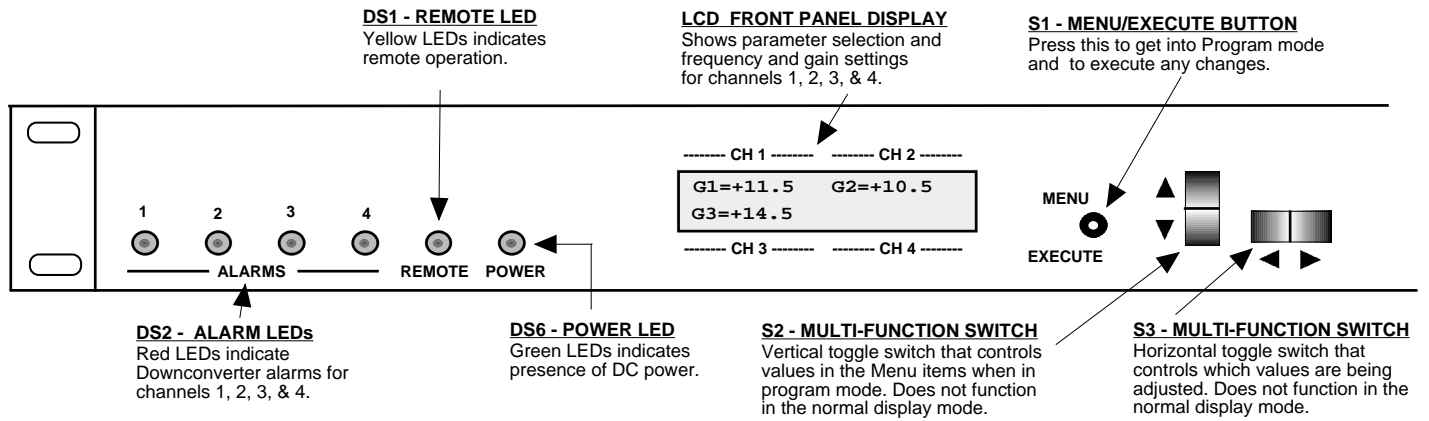

FIGURE 2.3 3115-33-95 Front Panel Controls and Indicators
6. Be sure DS6 (green, DC Power, PSA, PSB) is on and DS2 (red, Alarm) is off (Figure 2.3).
1. Menu/Execute - Any change to the programming of the unit must be initiated by pressing the Menu/Execute switch and completed by pressing the Menu/Execute switch (Figure 2.3).
2. Horizontal Switch - This switch is mounted so its movement is horizontal and moves the cursor left or right (Figure 2.3).
- a. During frequency, gain changes, the vertical movement will raise or lower the number in the direction of the arrows (Figure 2.3).
Alarm indications appear on the LEDs (See figure 2.3). An alarm condition will occur if any local oscillator phase lock loop (PLL) comes out of lock. The Remote LED will light when you select the Remote mode.